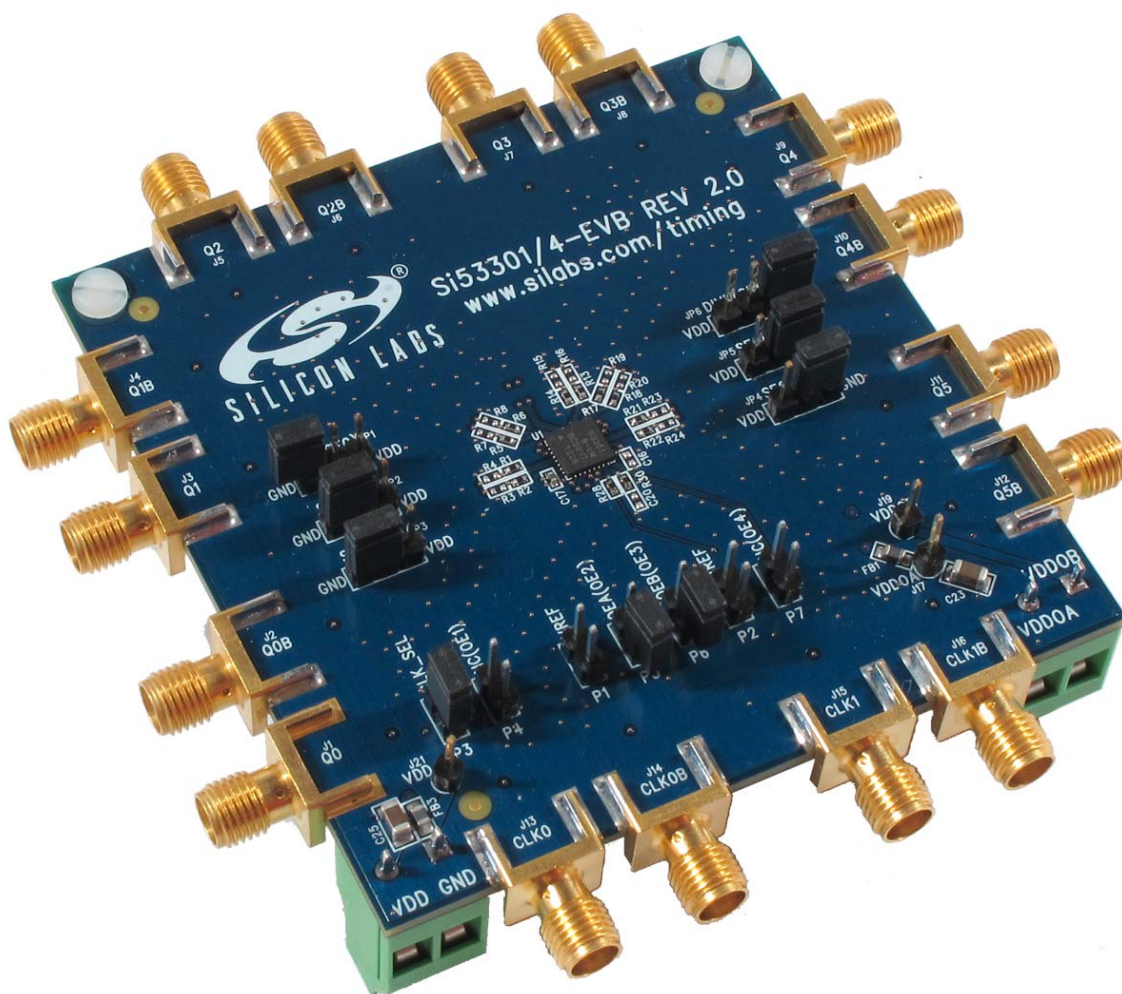

Figure 1. Si53301/4 Evaluation Board
This evaluation board can be used to evaluate a Si53301 or Si53304; however, the Si53301 is installed on the evaluation board. Refer to Figures 1, 2, and 3 and Tables 1 and 2 as needed for the following discussion about the jumpers. Many of the inputs are shown on the evaluation board silkscreen and schematic with dual names, such as name1(name2), where name1 is the input pin name for the Si53301 and name2 is the input pin name for the Si53304. In two cases, the input pin of the Si53301 is a no-connect (NC) when the Si53304 is a functional input.